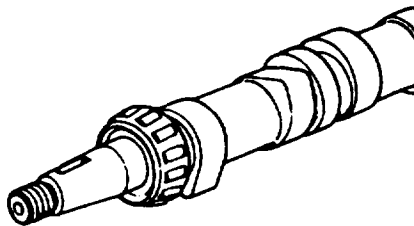

FIGURE 3-23. Camshaft
- l. Check camshaft (18, FIGURE 3-8) for damaged or worn cam surfaces, refer to FIGURE 3-23. Check thread damage and keyway groove on both ends. If damaged, replace camshaft.